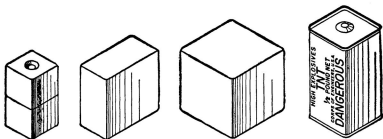

FIGURE 81.—Packages of nitrostarch, and TNT; $\frac{1}{4}$ -, $\frac{1}{2}$ -, and 1-pound packages of nitrostarch, and $\frac{1}{2}$ -pound block of TNT.
■ 47. EXPLOSIVES.—*a.* TNT.—(1) TNT (trinitrotoluene) is the standard explosive for Army use. It is issued in ½-pound blocks encased in a cardboard container closed at both ends with lacquered tin (fig. 81). One end of each block has a cylindrical hole, approximately $\frac{5}{16}$ inch in diameter and $2\frac{1}{8}$ inches long, for receiving the cap.